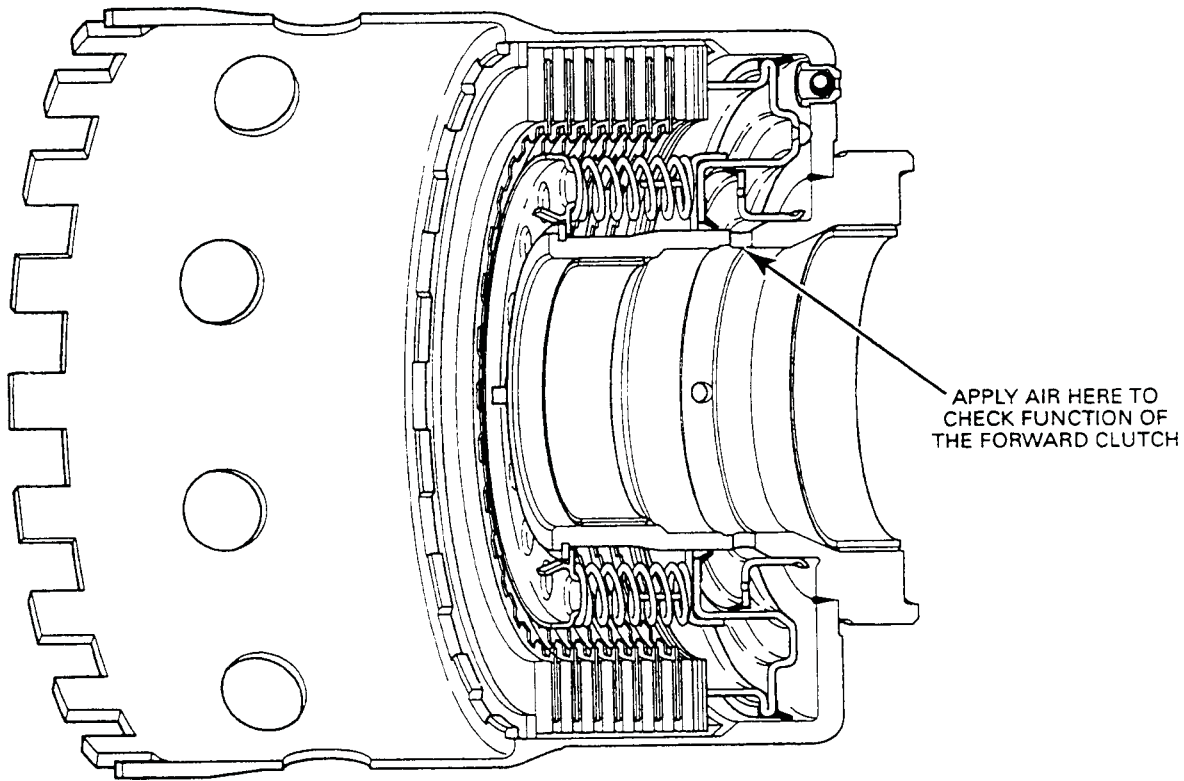

Figure 117
16. Air check the forward clutch to verify proper operation of the seals and clutch pack as shown in Figure 117.